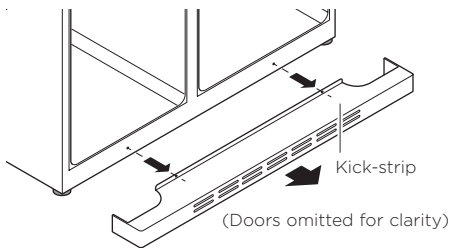

Fig.1 Removing kick-strip
- ① Undo the 2 screws holding kick-strip in position and remove (Fig.1).